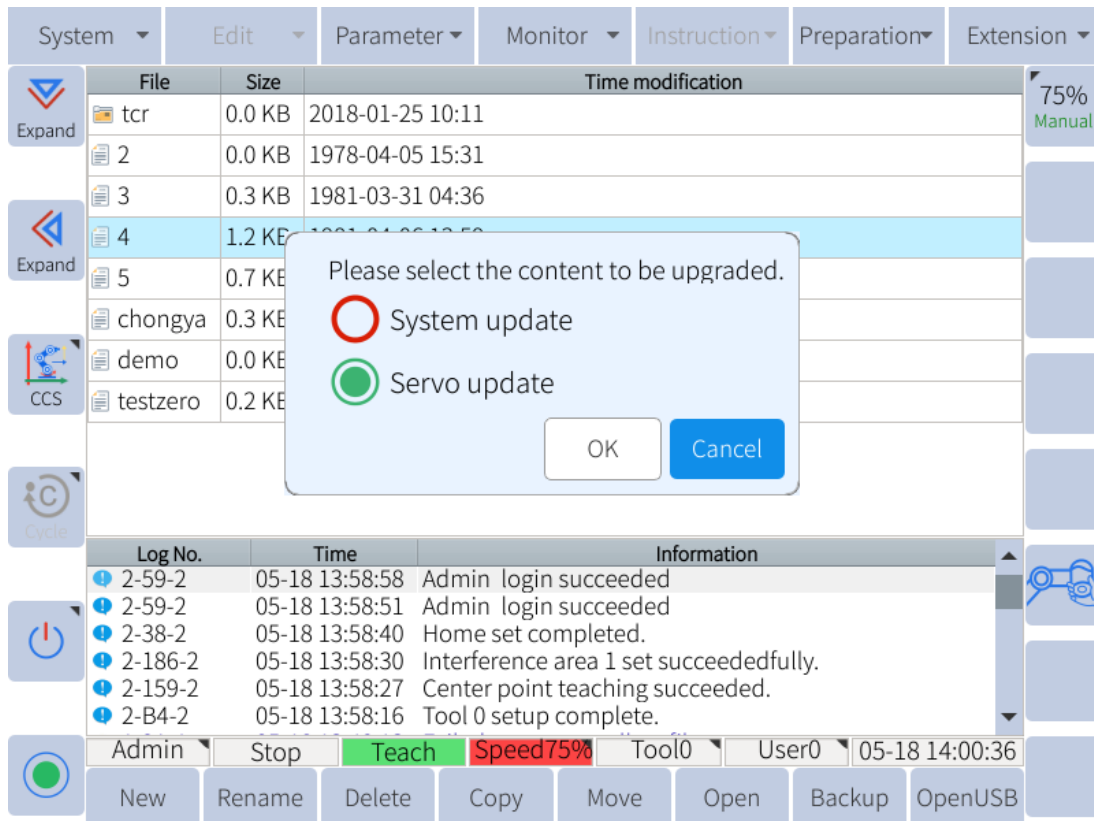

Figure 13-2 : Selecting the content that needs to be upgraded
4. After pressing “OK” button, the system will give the message “Please select the content that needs to be upgraded”. Then select “Upgrade Firmware”, as shown in **Figure 13-2**.